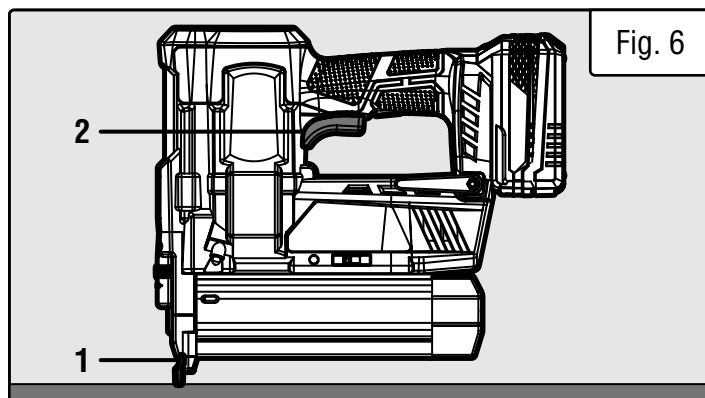

Fig. 6
4. Hold the nailer upright on the workpiece and position the no-mar tip (Fig. 6 - 1) where the fastener will be driven.
5. Carefully press down and pull the trigger (Fig. 6 - 2) to drive a fastener.